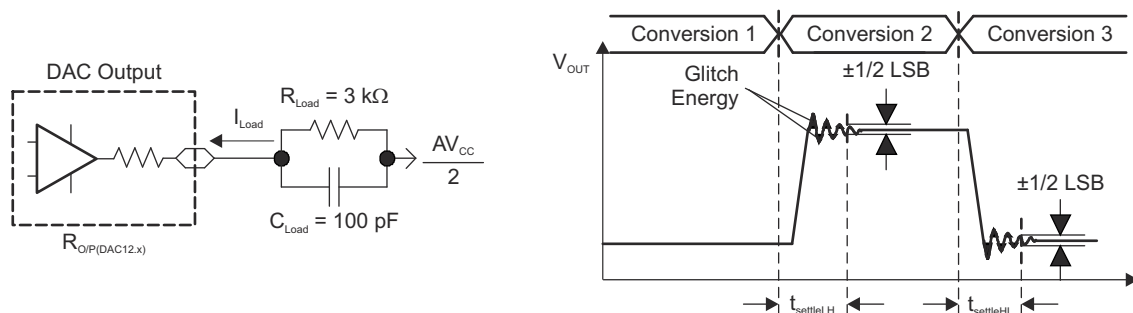
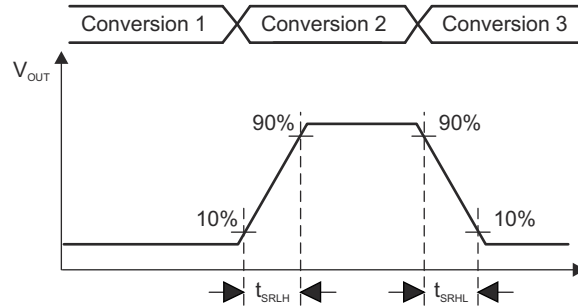

图 8-19. Settling Time and Glitch Energy Testing
图 8-20. Slew Rate Testing
V_{REF} = V_{CC}, DAC12IR = 1 (see 图 8-19 and 图 8-20), over recommended ranges of supply voltage and operating free-air temperature (unless otherwise noted)
| t _{ON} | DAC12 on time | DAC12_xDAT = 800h, Error _{V(O)} < ±0.5 LSB ⁽¹⁾ (see 图 8-19) | 2.2 V, 3 V | 60 | | 120 | μs | |
- (1) R_{Load} and C_{Load} connected to AV_{SS} (not AV_{CC}/2) in 图 8-19.
- (2) Slew rate applies to output voltage steps ≥ 200 mV.